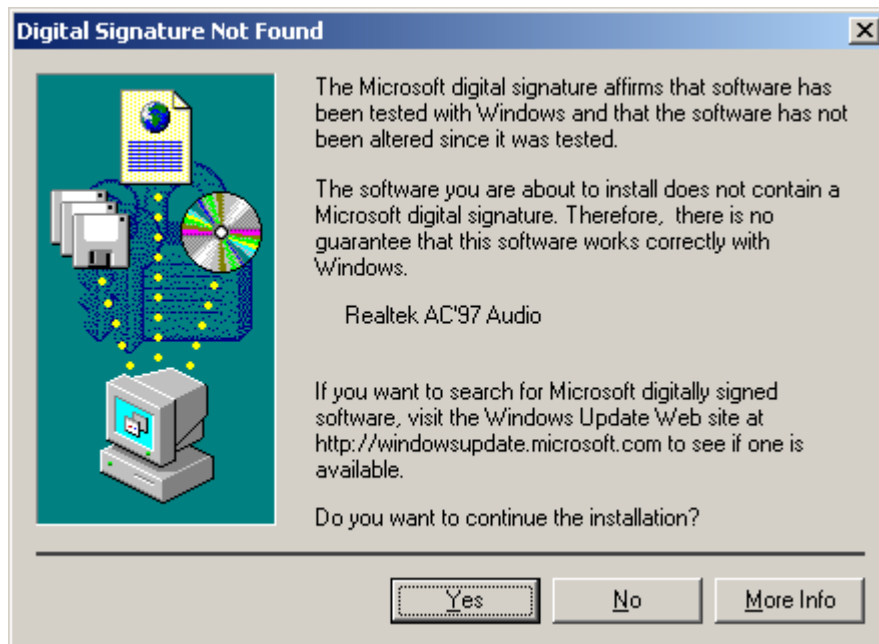

Figure 6-22: Audio Driver Digital Signal
Step 4: At this stage the **Digital Signal Not Found** screen appears (**Figure 6-22**). Click **YES** to continue.